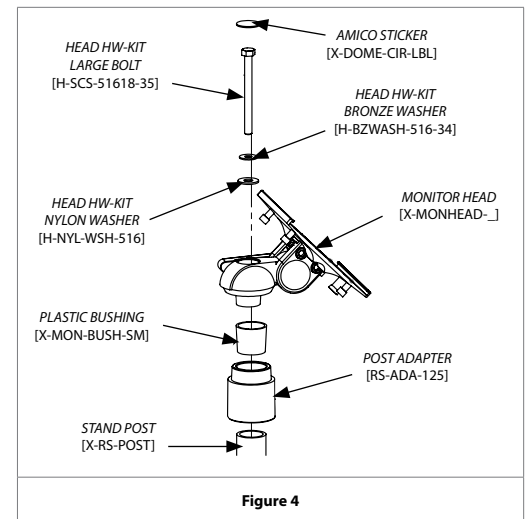

Figure 4
1. Using a 1/2" socket wrench, insert the **SCREW** through the **BRONZE WASHER**, the **NYLON WASHER**, the **MONITOR HEAD**, the black **PLASTIC BUSHING**, and the **BASE ADAPTER** into the **POST** as seen in **Figure 4**.